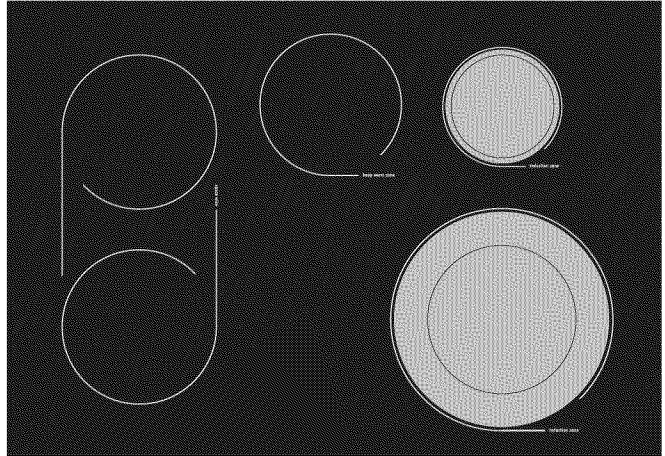
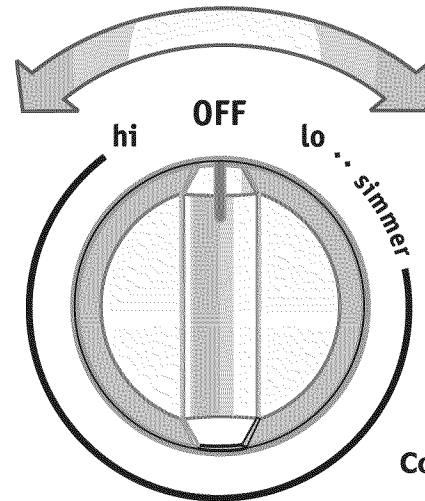
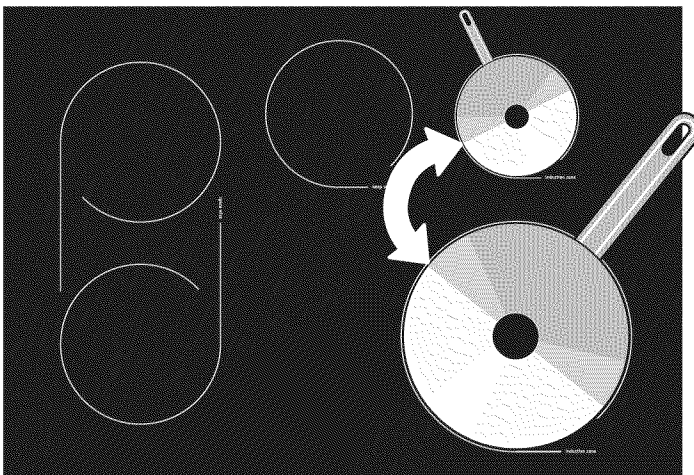

Figure 1
Figure 2
Figure 3
POWER SHARING TIPS: Remember to set the power level for the food item you wish to maintain last (See Fig. 3).
2. At the keep warmer zone controls position touch **^** once to turn ON the power level for HI (Fig. 1) or **v** to turn ON the power level for LO (Fig. 3).
3. Each touch **^** or **v** will increase or decrease the power levels. The keep warm zone has 5 power levels from HI (Fig. 1) through MED (Fig. 2) to LO (Fig. 3). The power level may be adjusted at any time while the keep warm zone is ON.